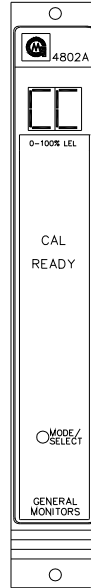

Figure 23: CC Display during CAL Mode
- Wait for the display to change from **CP** to **CC** when the calibration routine is complete (about 1 minute, Figure 23). If the display indicates **F2** remove the gas and recalibrate after 5 minutes.